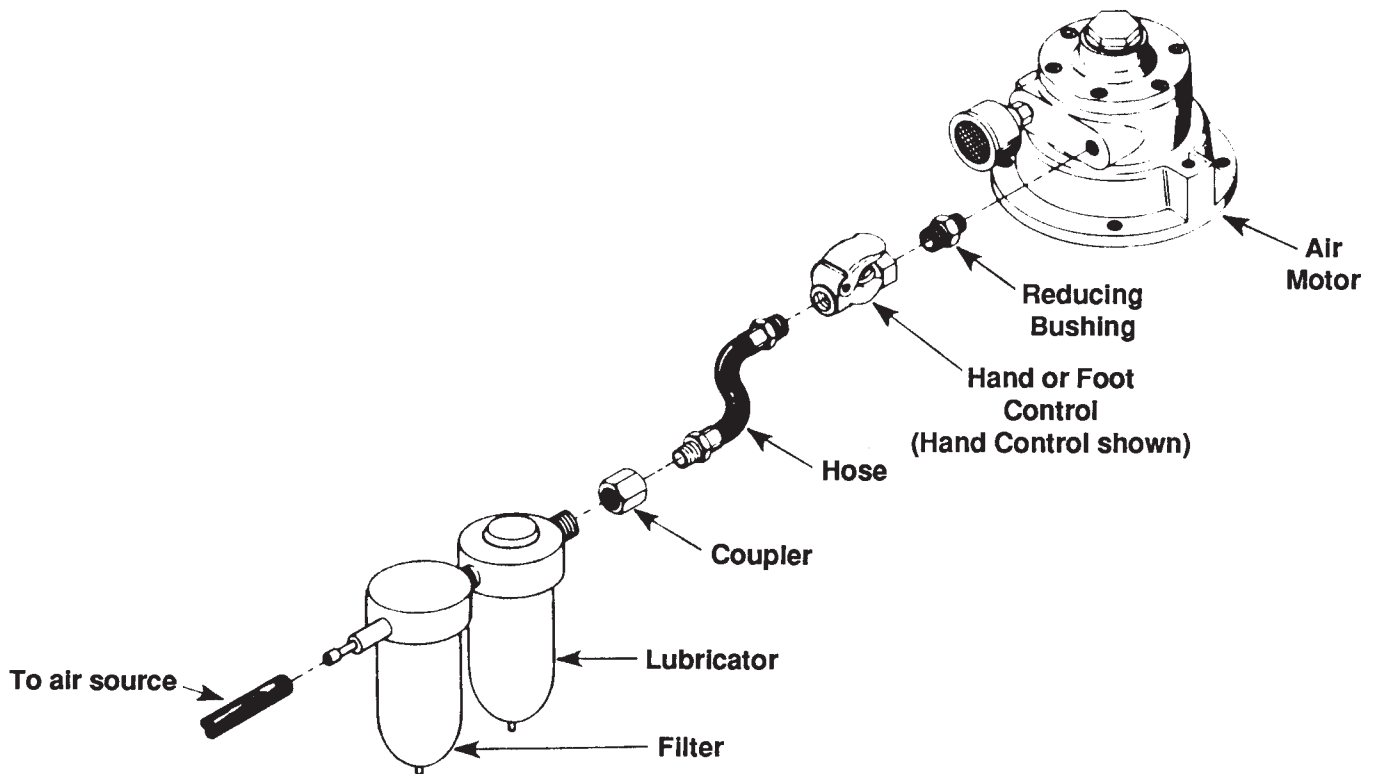

Figure 1
1. Remove the thread protector from the air inlet, and install the air supply fittings (not included) as shown in Figure 1. Air supply must be minimum 50 CFM and 80 PSI, with 100 PSI maximum. **Note: Seal all hydraulic connections with Power Team HTS6 thread sealant. PTFE tape can be used if only one layer of tape is applied carefully, two threads back, to prevent tape from being pinched and broken off inside the pipe. Loose pieces of tape could travel through the system and obstruct the flow of oil.**